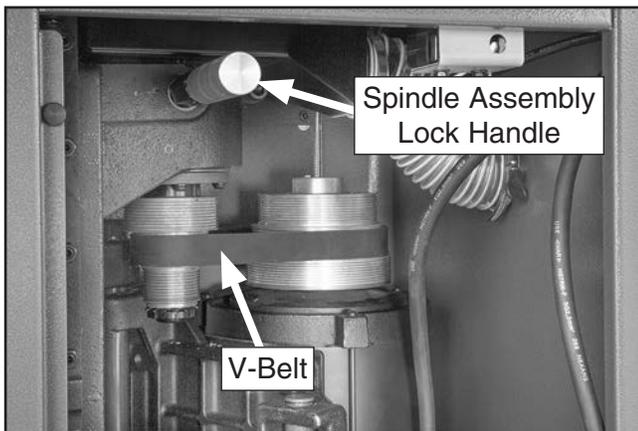

Figure 14. Spindle seat and pulleys.
1. Unlock spindle seat by pulling spindle assembly lock handle and turning $\frac{1}{4}$ turn (see **Figure 14**). Turn V-belt and pulleys until click can be heard.